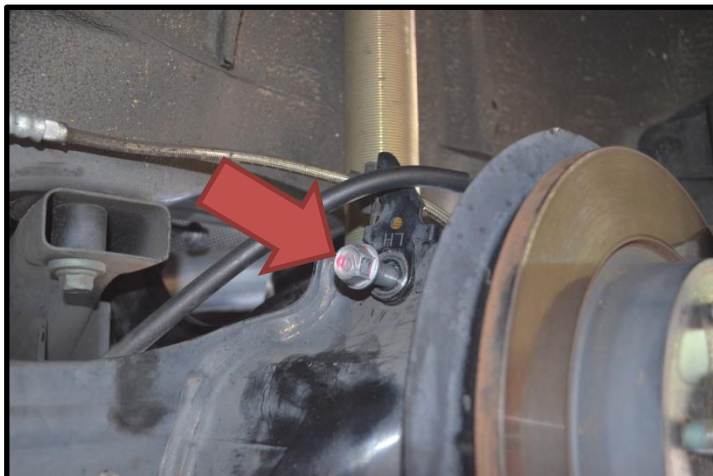
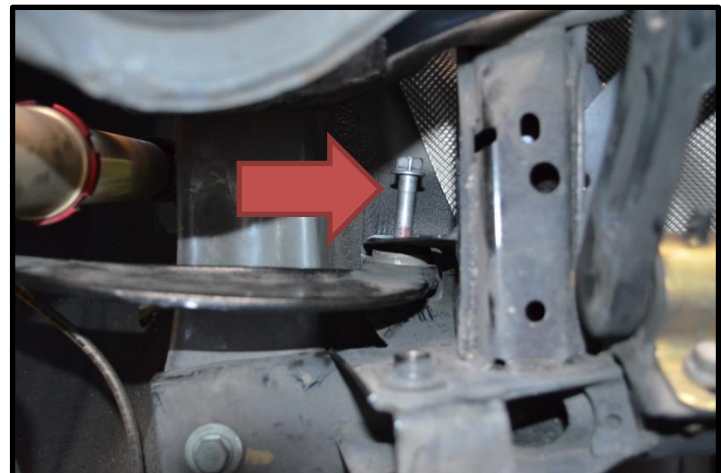

Figure 1b
Figure 1c
- d) **Locate the upper and lower bolts that attach the camber arm in place and remove with a 17mm end wrench (upper) and socket (lower).** Figure 1b shows the lower bolt inside the wheel well and Figure 1c shows the upper bolt seen from under the car.